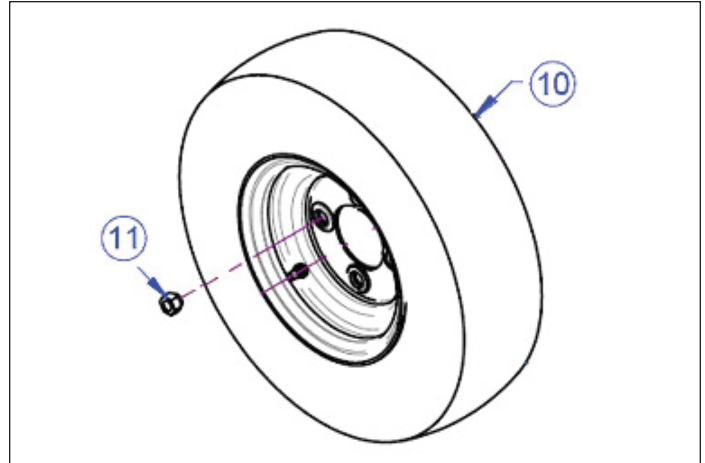
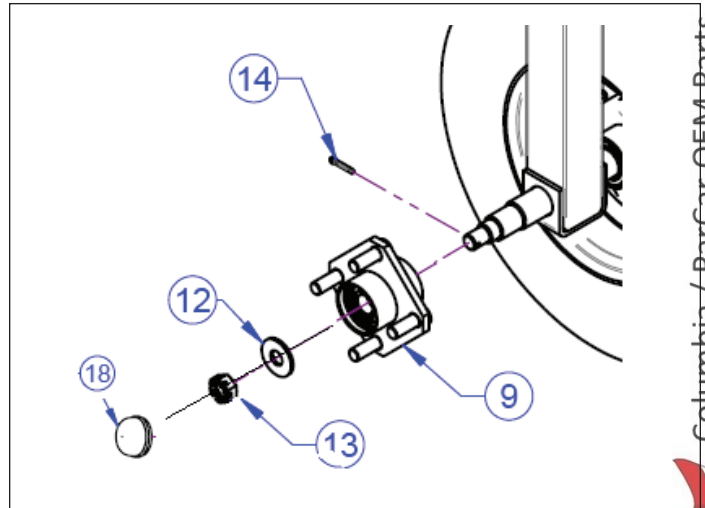
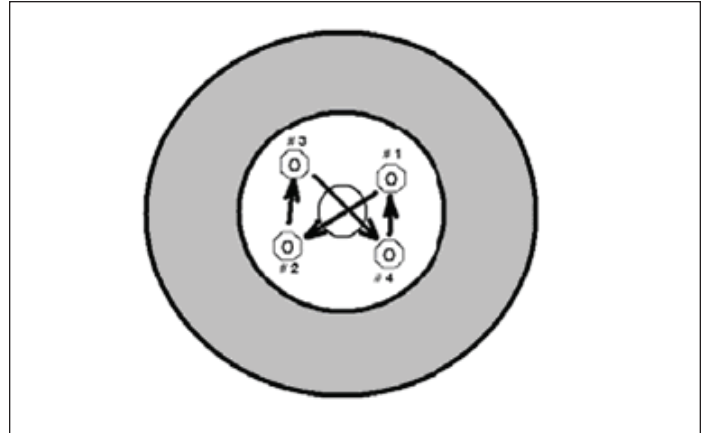

Figure 6-1. Front Wheel Assembly
Figure 6-2. Front Hub Assembly
Figure 6-4. Lug Nut Tightening Pattern
1. Before raising vehicle, with wheels on the ground, break loose the lug nuts (11, Figure 6-1).
3. Remove grease cap (18, Figure 6-2)
4. Remove cotter pin (14), axle nut (13) and flat washer (12) (Figure 6-2).
5. Carefully pull hub (9) off the axle.
1. Clean axle. Apply a thin coating of grease. Install hub onto the axle (Figure 6-2).
2. Install flat washer (12) and nut (13).
3. Tighten axle nut (13) until the hub (9) won't rotate. Then, back off axle nut until hub turns freely.
4. Install a new cotter pin (14). Install grease cup (18).
7. Tighten four lug nuts (11, Figure 6-1) by hand and wrench until snug using a criss-cross pattern (Figure 6-4).